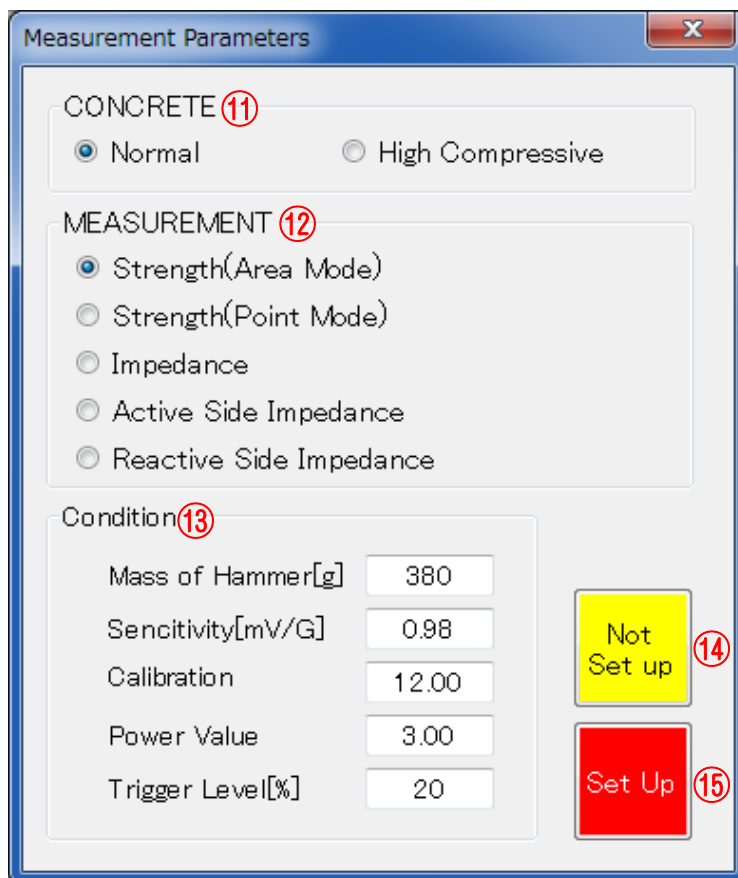

Fig.5.2-1 Dialog Window
- Click [Parameters Set] ⑥ button in the initial screen of CTS-02V4-PC.
- The dialog window as shown below will be displayed to input the measurement parameters (See Fig.5.2-1).